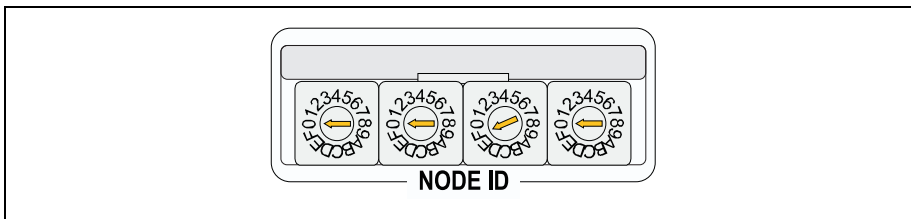

Figure 6-4 CU Address Settings
- Set rotary switches 1 and 2 to 00. Figure 6-4 illustrates the CU address switch settings.